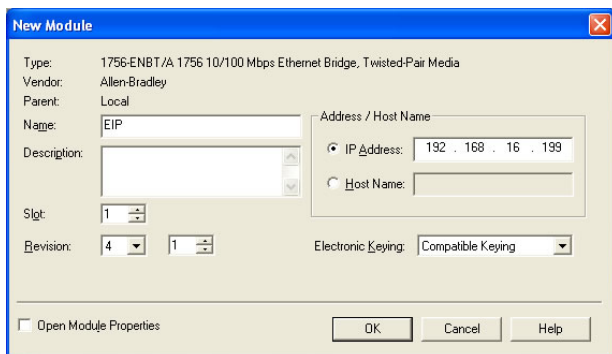

Figure 76: Configuring the New Module
- 6) The “New Module” window will open. Refer to Figure 76.